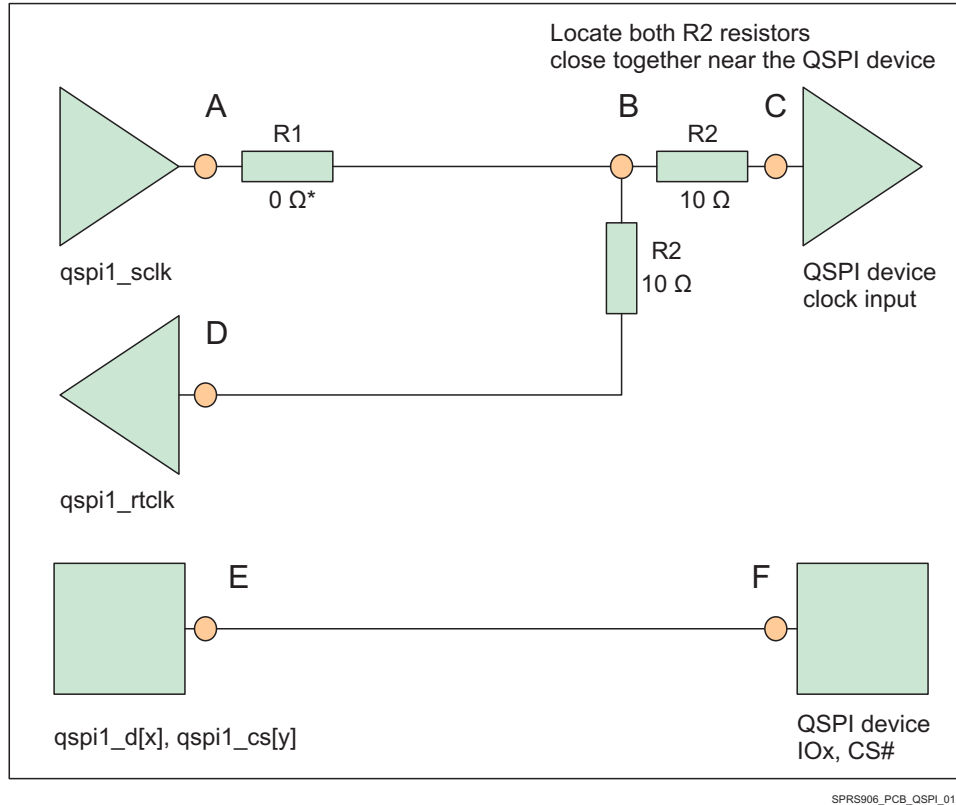

图 8-30. QSPI Interface High Level Schematic
- 50 Ω PCB routing is recommended along with series terminations, as shown in 图 8-30.